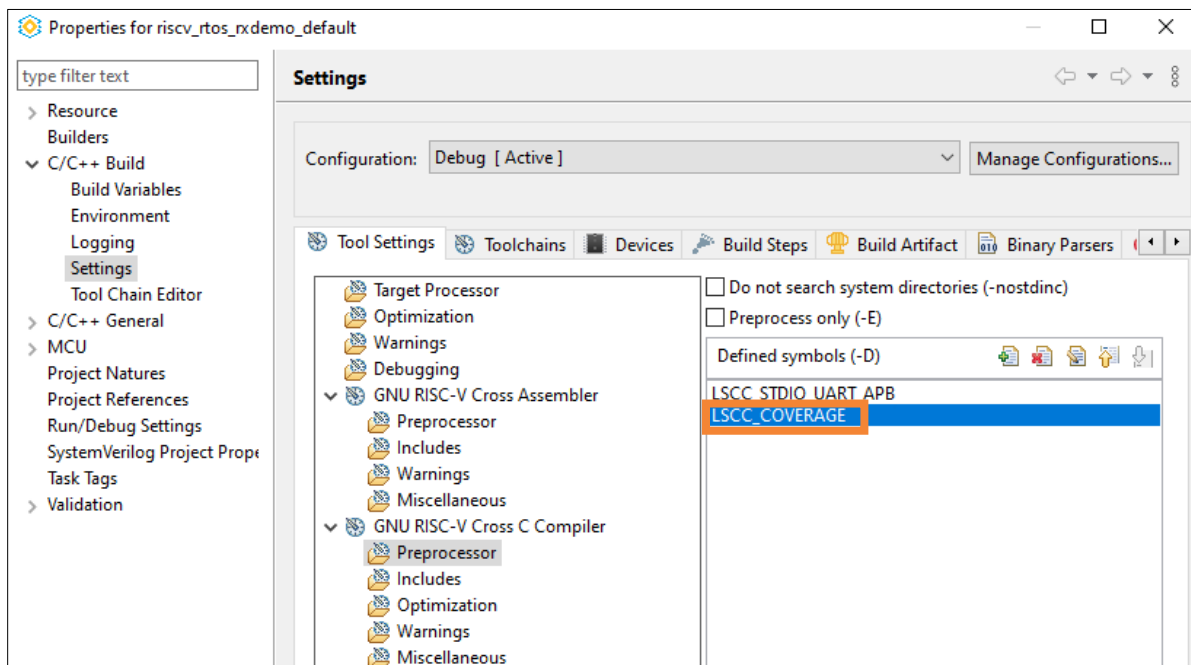

Figure 5.23. LSCC_COVERAGE Symbol
3. Select **GNU RISC-V Cross C Compiler > Preprocessor**. Add the defined symbol, `LSCC_COVERAGE` (Figure 5.23).